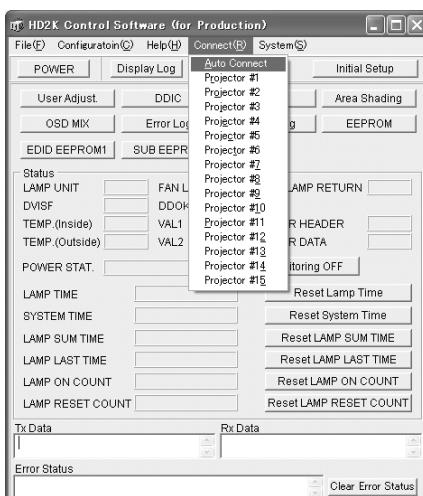

Fig.1
- (1) Connect the PC and the Projector with an RS 232C cable and turn the projector ON.
- (2) Boot the SPA software.
- (3) Click [Connect] in the Menu Bar and select [Auto Connect] in the pull down menu. Refer to Fig.1.